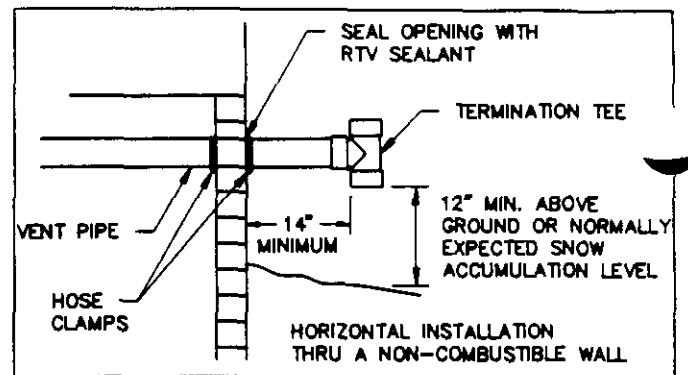

FIGURE 5
1. When penetrating a non-combustible wall, make the hole just large enough for vent pipe. Use approved sealant material to seal vent pipe to the non-combustible wall. See Figure 5.